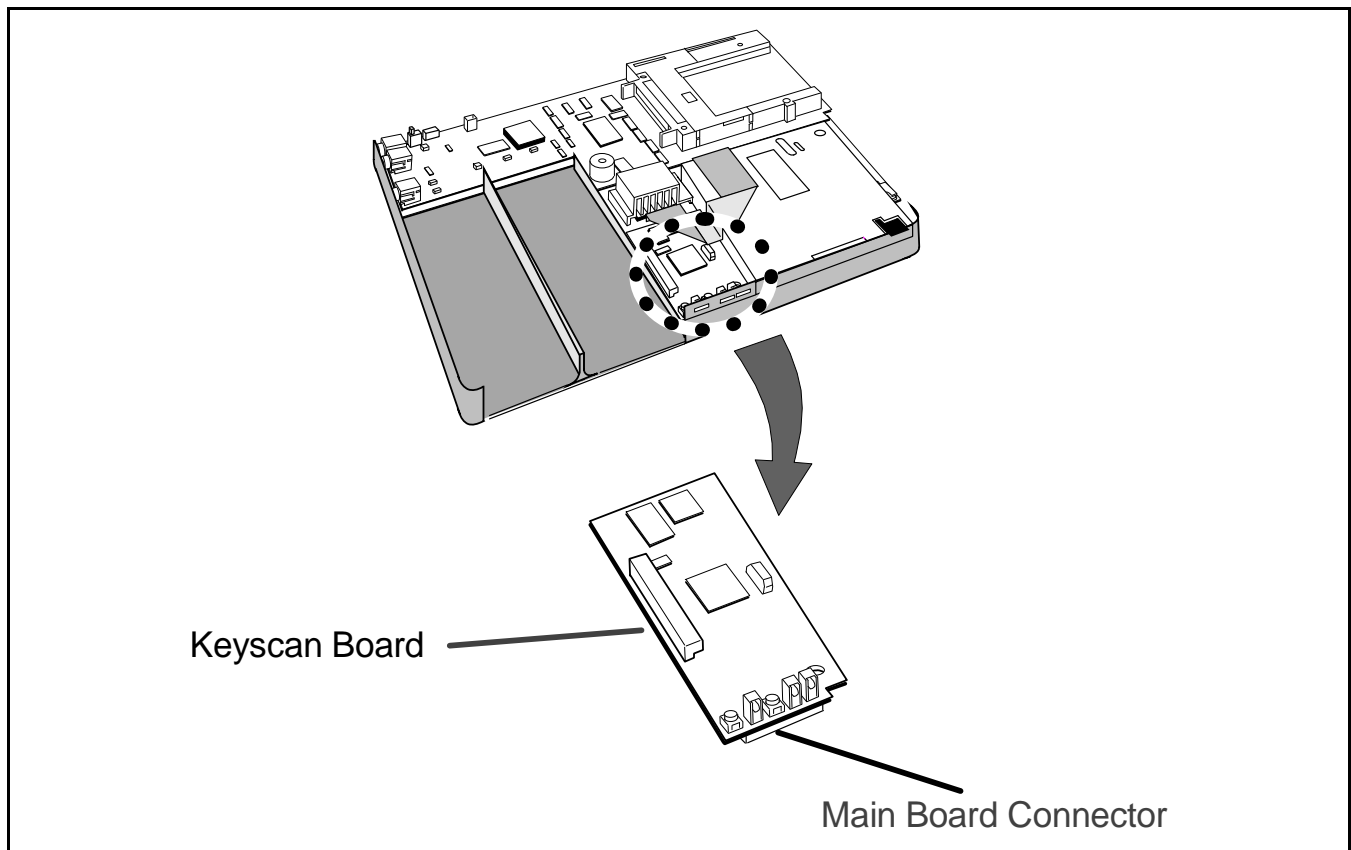

Figure 5-10 Keyscan Board, Removal/Replacement
3. Using a straight slot screwdriver, gently pry the Keyscan Board upwards (held in place by its bottom connector). Remove the board from the notebook (see Figure 5-10).